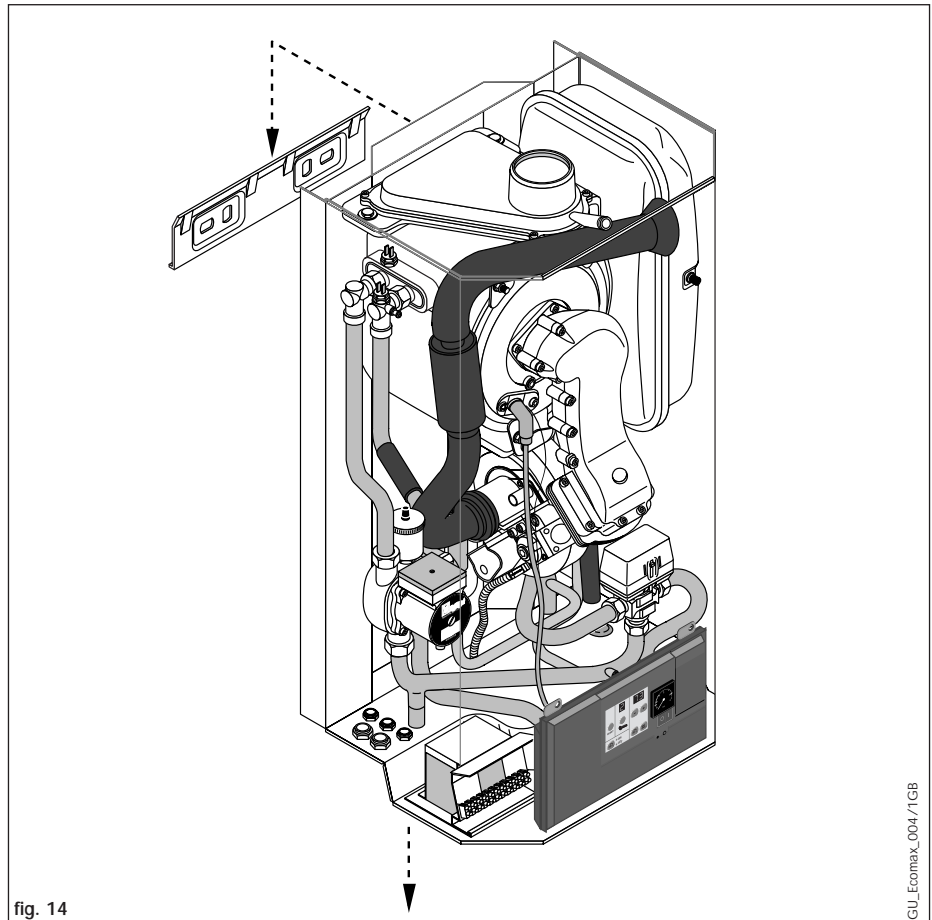

fig. 14
4.5.1 Fitting the boiler (fig. 14)